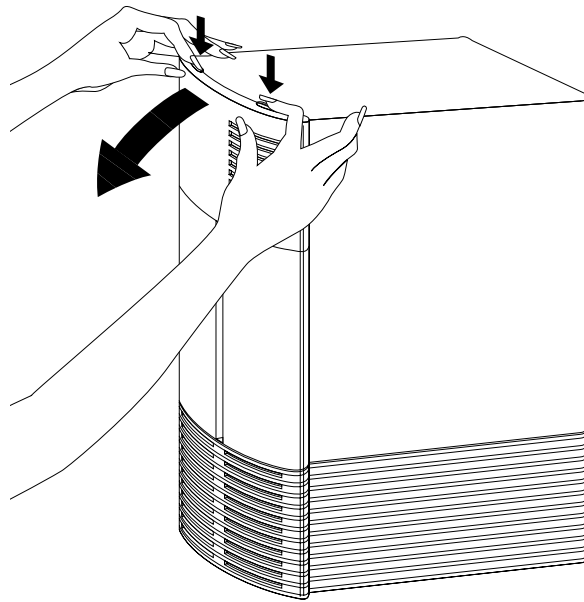

Figure 4-2 Removing the Front Plastic Cover of the Chassis
- Press down on the tabs and pull the cover away from the chassis, as shown in Figure 4-2.